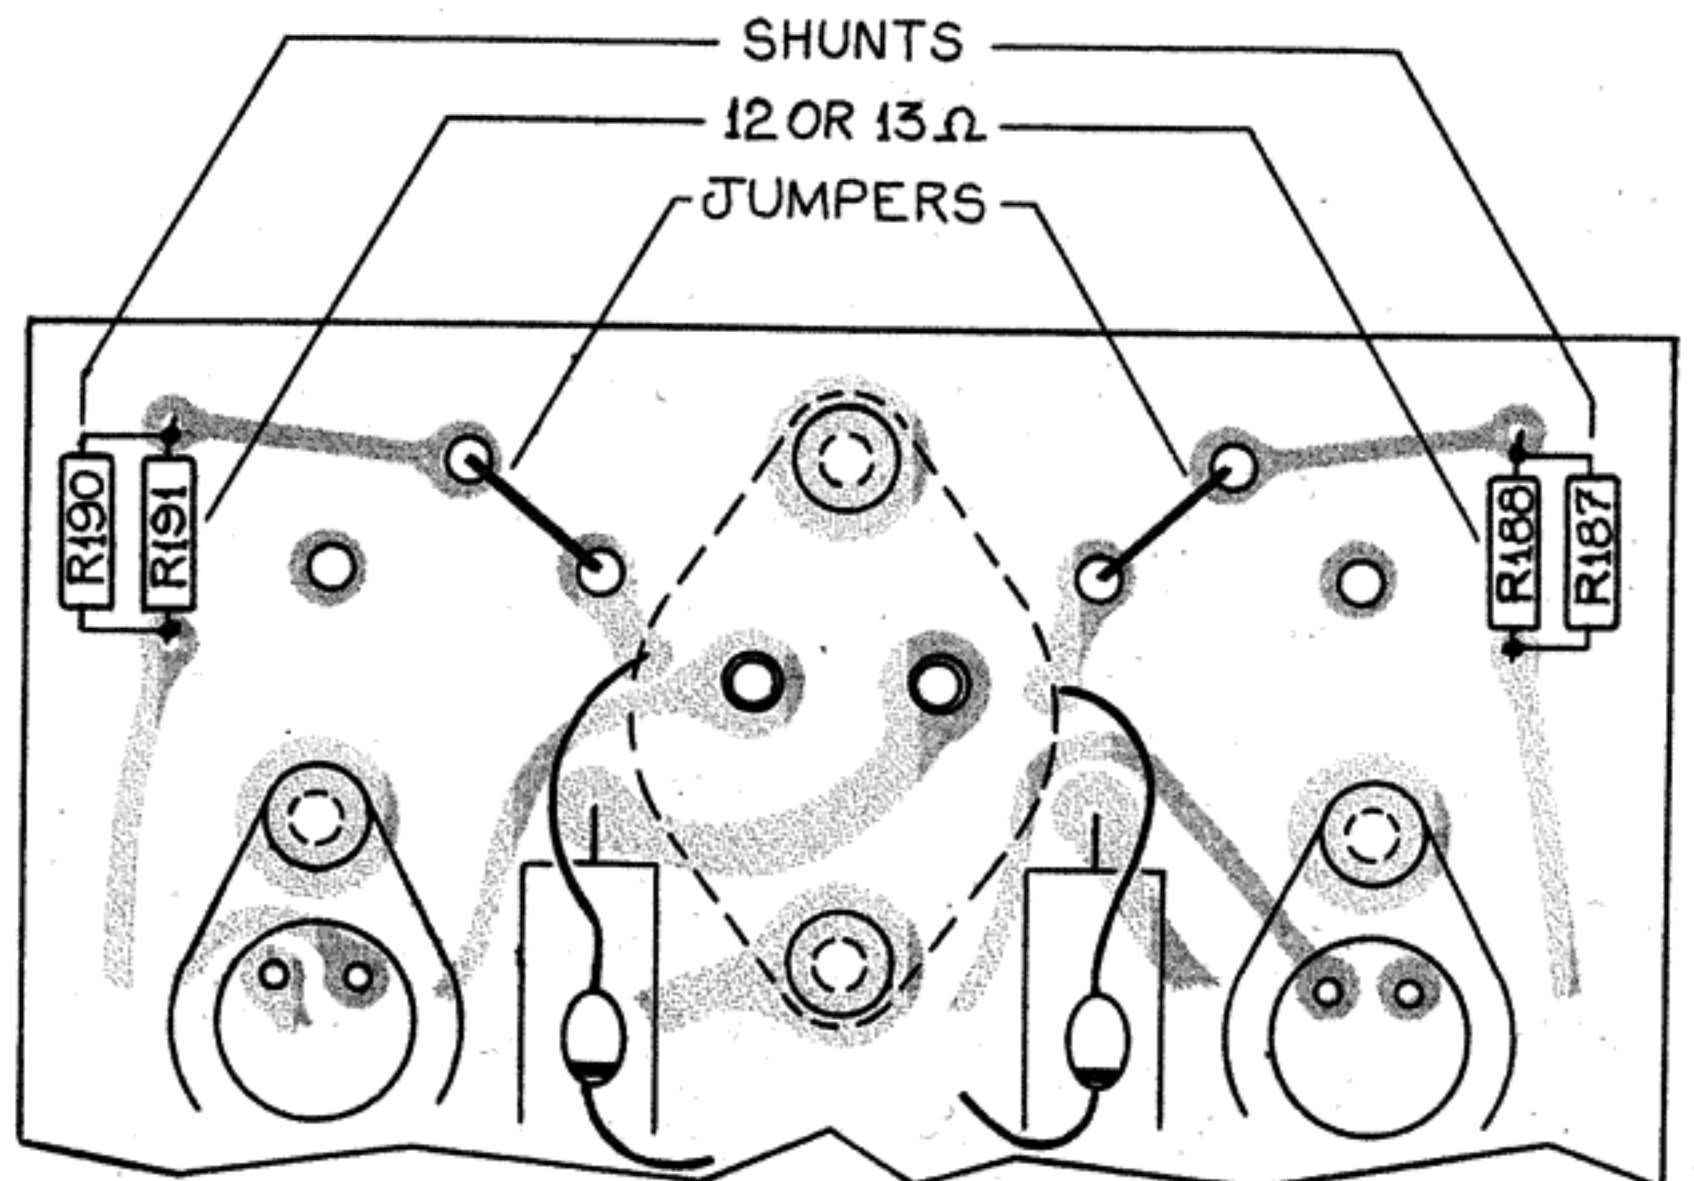

FIGURE 12
**d. Power Supply:** All small components are on a board, instead of the point-to-point wiring of the amp. (See Figure 12.)